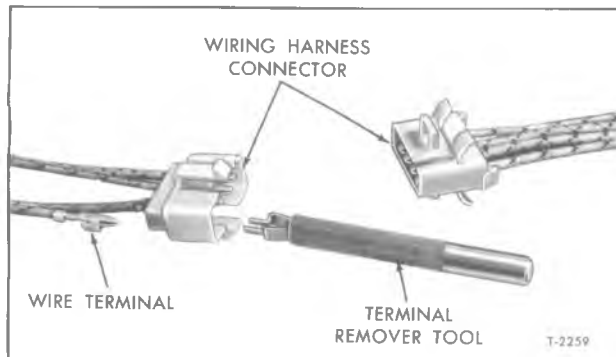

Figure 2—Removing Twin-Lock Connector Terminals
2. To remove a twin lock type terminal from connector, disengage the lock tangs and separate connector. Insert terminal remover (J-21091) or equivalent, as shown in figure 2 to disengage terminal locks from the connector. Pull wire and terminal from cable connector.